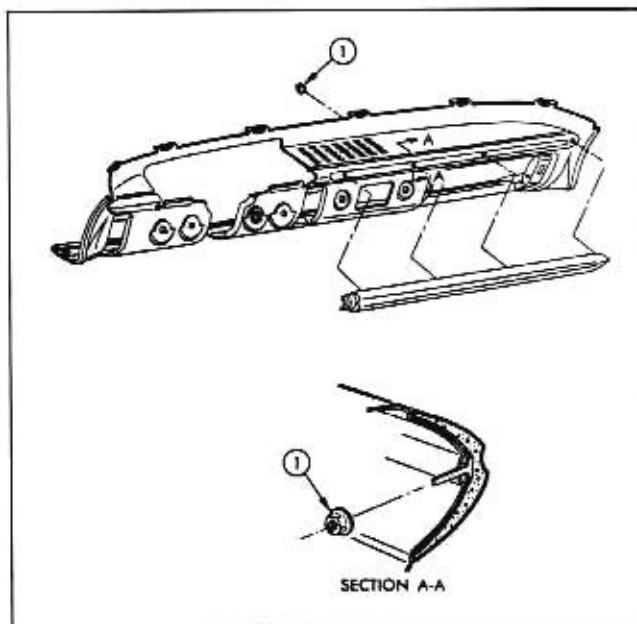

Fig. 10A-18 Instrument Panel Cover
1. From underside of instrument panel remove attaching nuts indicated by No. 1 in Fig. 10A-18 and remove cover assembly.